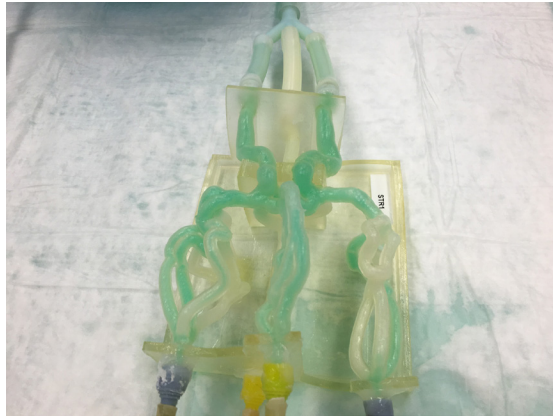

Figure 6: The Jacobs Institute 3D prints vascular models using Agilus30 material and PolyJet technology.
The Jacobs Institute (JI), a medical device and leading vascular center in Buffalo, New York, uses PolyJet 3D printing technology for patient-specific models based on CT and MRI scans. These models represent a patient’s unique vascular anatomy, enabling surgeons to not only plan and practice a surgery before getting into the operating room, but also to serve as patient reference points before complex procedures (Figure 6).